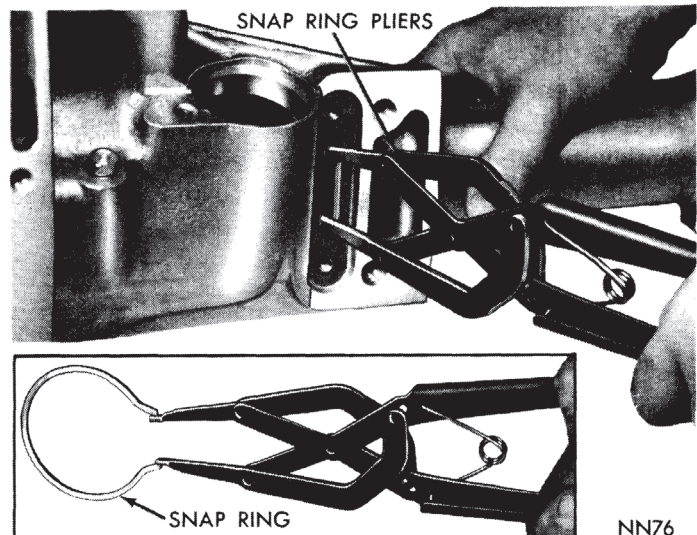

Fig. 8—Removing or Installing Extension Housing
(6) Remove two screws, plate and gasket from bottom of extension housing mounting pad. Spread large snap ring from output shaft bearing (Fig. 8).